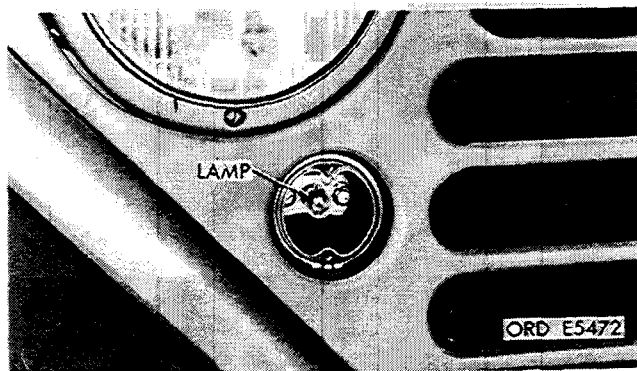

Figure 2-202. Remove blackout marker lamps. (M151, M151A1, M151A1C, and M718 vehicles).
(2) Grasp lamp, turn counterclockwise and remove. Install new lamp. Install door assembly and screws (fig. 2-202).